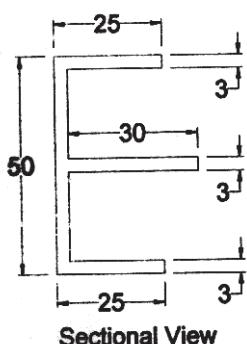

Fig.1: Extruded Aluminum Secton
- b) An Aluminum billet of 50mm diameter and 1m long is extruded to the final shape shown in Fig1. Calculate: [8]